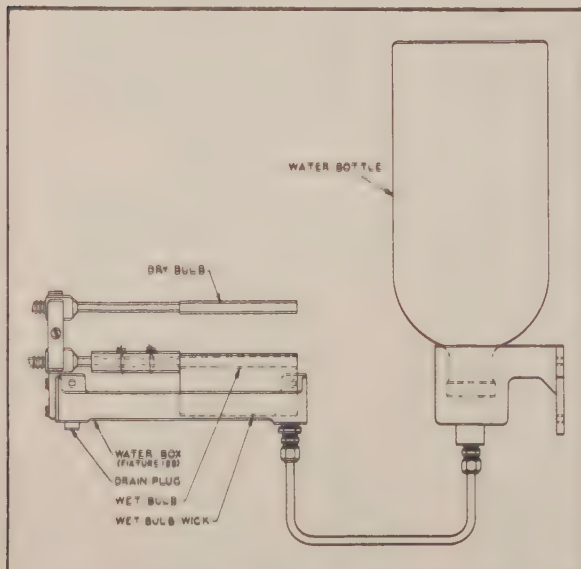
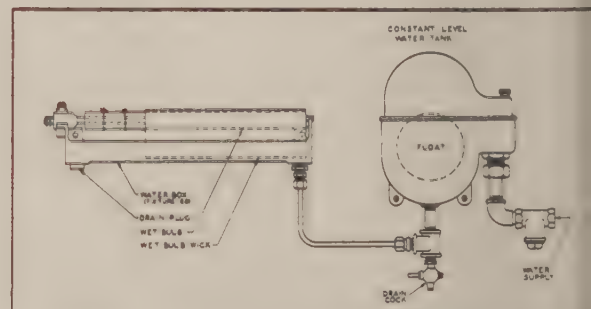

FIGURE 1. FIXTURE 124 SHOWING WATER BOX FOR CLASS I PSYCHROMETERS
FIGURE 2. FIXTURE 176 SHOWING WATER BOX FOR CLASS II AND III PSYCHROMETER
1. Fixture 124 (see Fig. 1). Mount Fixture 124 where the humidity is to be measured. The circulation of the air in the area of measurement should be as great as possible. If good circulation cannot be achieved, it may be necessary to go to forced-air sampling.
2. Fixture 176 (see Fig. 2). Mount Fixture 176 where the humidity is to be measured. The circulation of the air in the area of measurement should be as great as possible. If good circulation cannot be achieved, it may be necessary to go to forced-air sampling.
In Fixtures 124, 176 and 188, class I wet and dry bulbs are mounted vertically (one above the other) on a bracket as shown in Fig. 1. Class II or III wet and dry bulbs are mounted horizontally (side by side) as shown in Fig. 2. Remove the bulb clamp, insert the bulbs and clamp them securely to the mounting bracket.